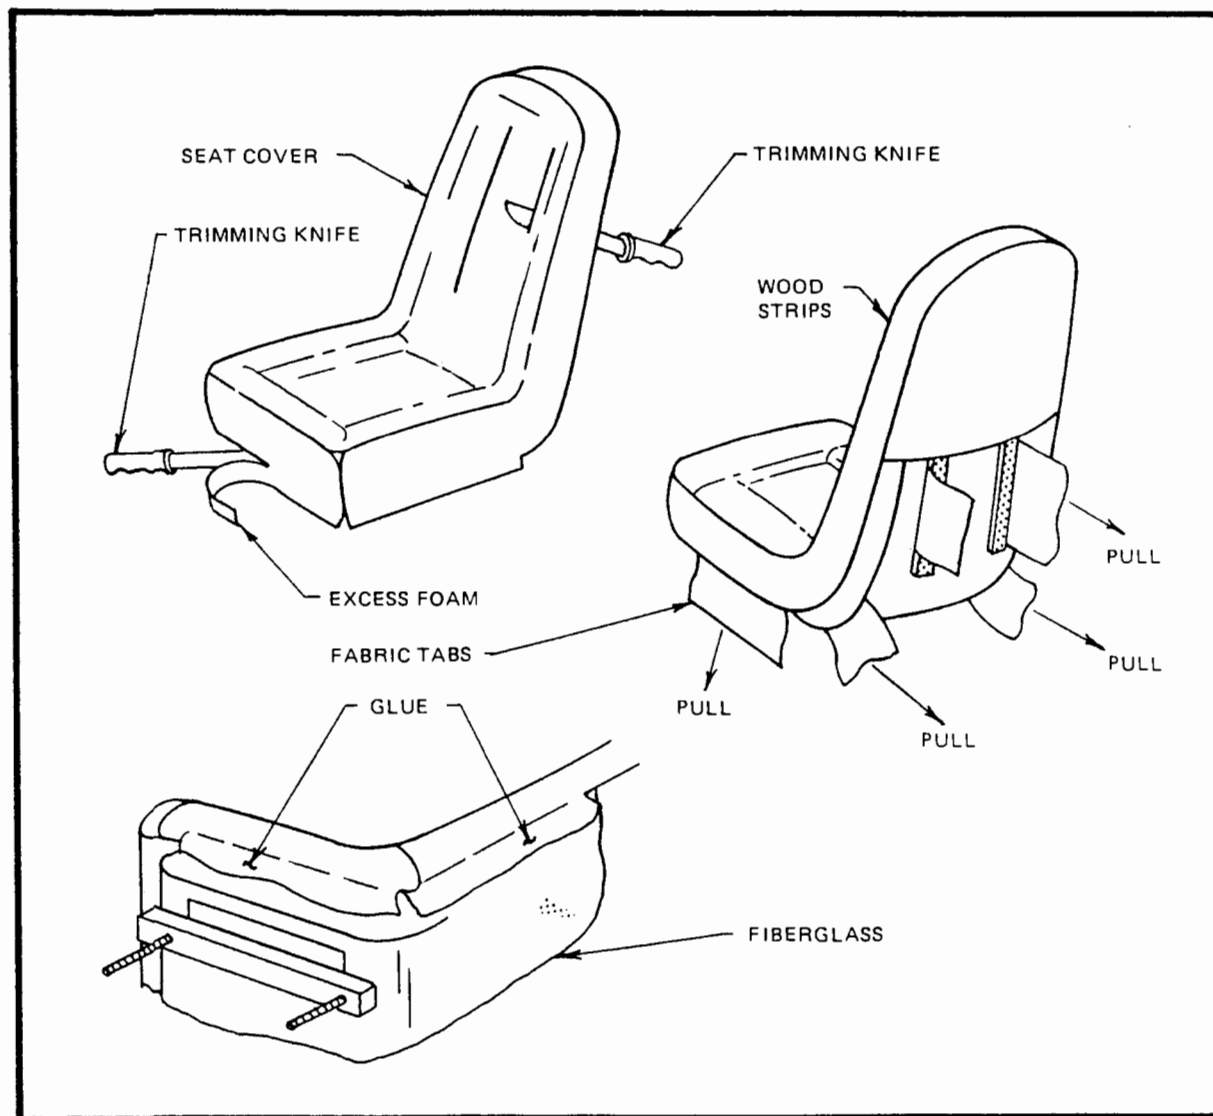

Figure 11
- Pull the tabs all the way out through the slots. (Figure 11)
seat is installed and spray the underside of the seat with flat black paint. (Figure 11)